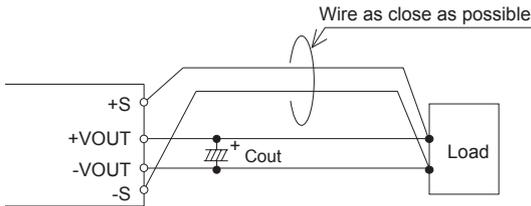

Fig. 3.3 When Remote Sensing is Used
■ Avoid applying reversed-polarity voltage to the power module as it will damage the power module. To protect the power module from reversed polarity voltage, installing an external diode as shown in Fig. 3.3 is recommended.